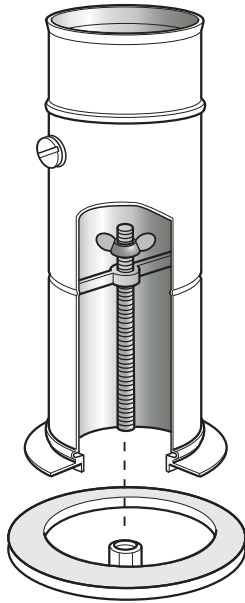

Fig. 21 - Boiler flue connector
8. Fit the boiler connector (from the CF adaptor kit) over the threaded studding. Position flange on to the neoprene gasket around the boiler flue outlet, ensuring that small spigot on the base of the connector is located in the hole in the centre of the neoprene gasket and that end of studding passes through the hole in the of the spacer bracket. Fit washer and wing nut provided onto end of threaded studding and secure connector in position by tightening down on wing nut – as shown in Fig. 21.